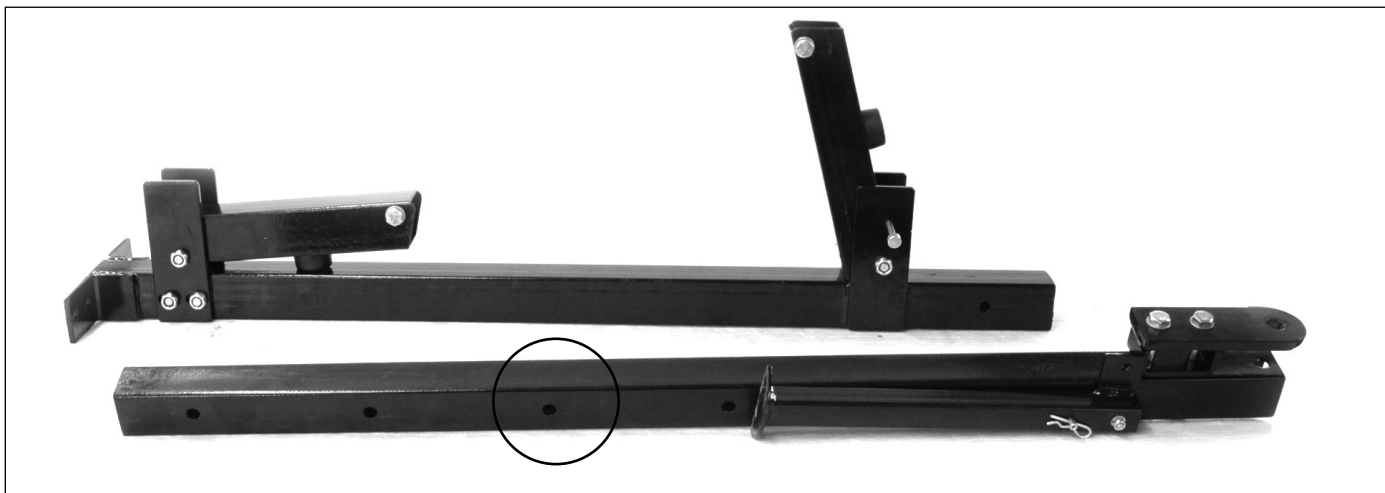

Figure 2
2. Slide inner hitch assembly into outer telescopic tongue/axle assembly. Replace locking pin in 3rd hole. **SEE FIGURE 2.**